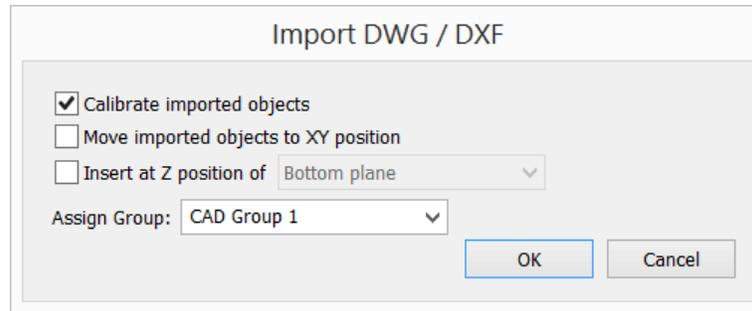

Figure 6.4-1 - Project Calibration Dialog
- Now Project Calibration Dialog (**Figure 6.4-1**) will appear. Select **Calibrate imported objects** to enter calibration mode. The cursor will default to Snap mode.